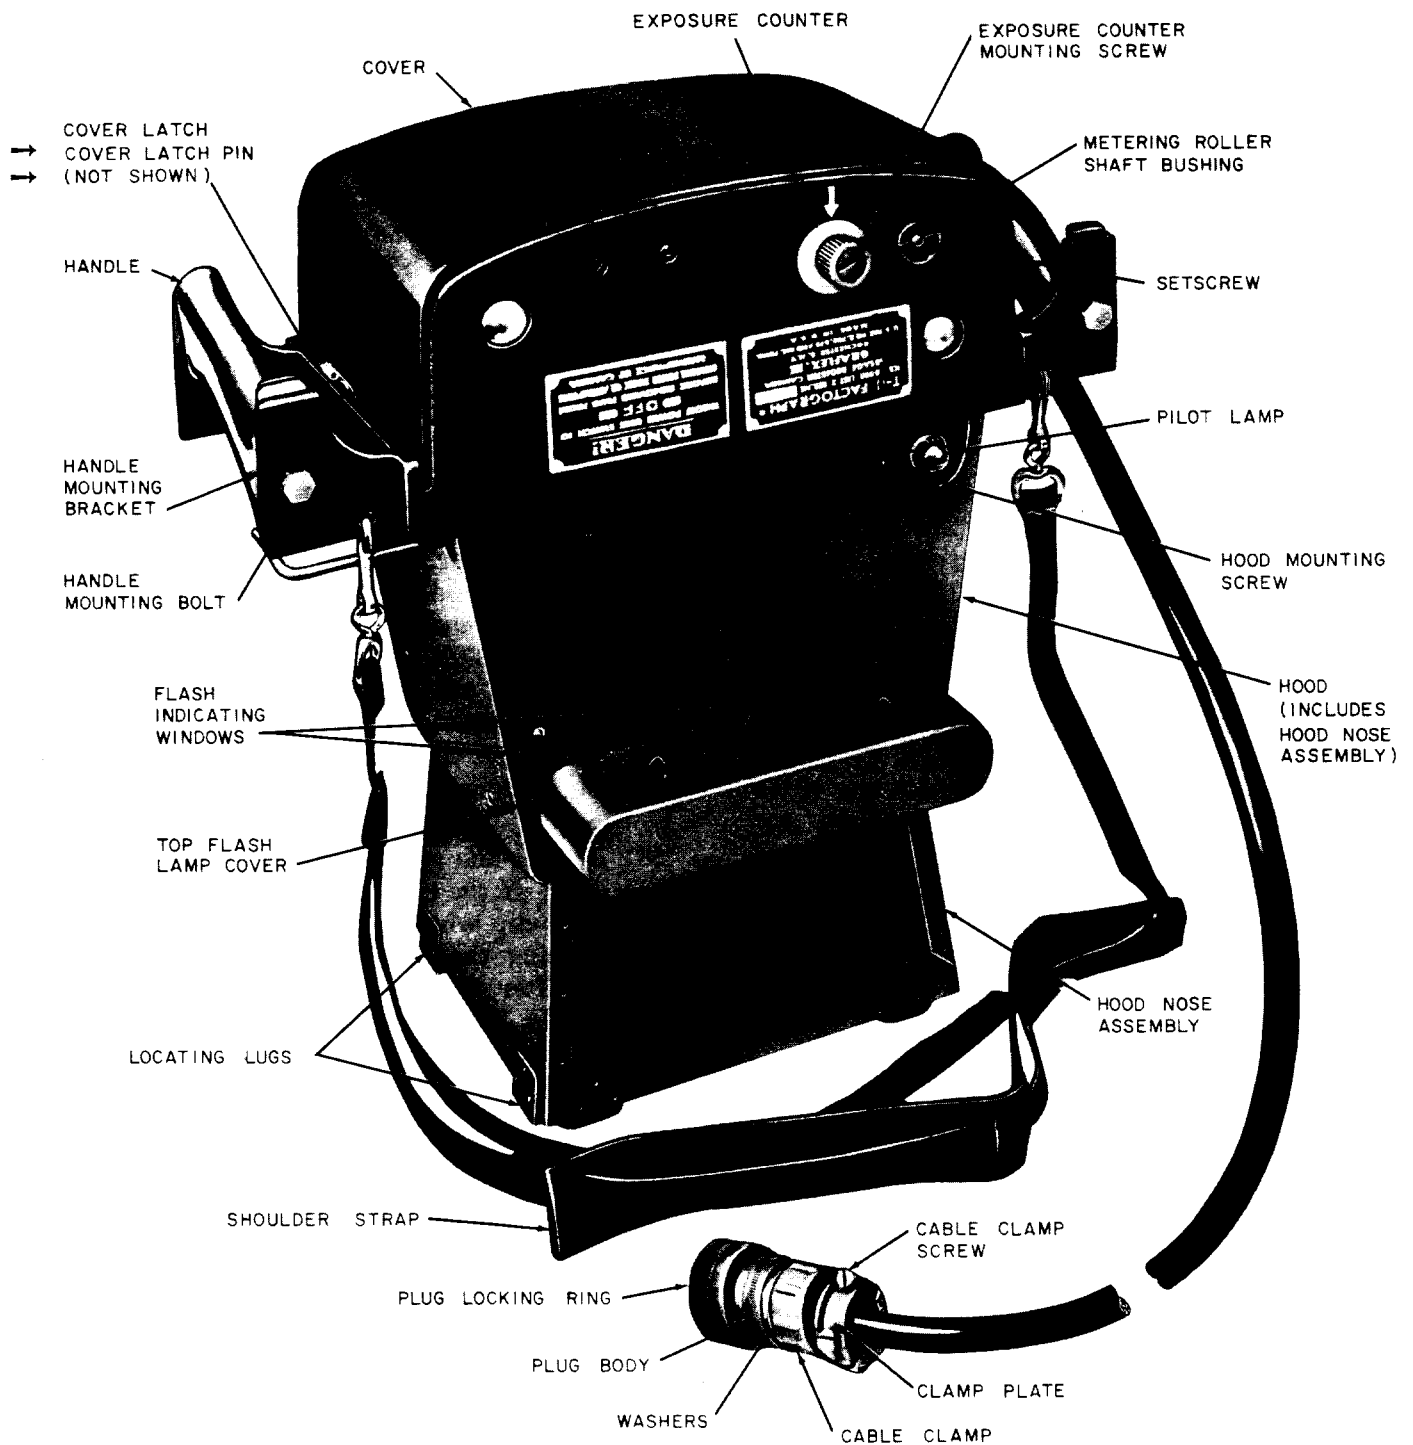

Fig. 11 — KS-14593 L2 Message Register Camera (Exterior View)
3.08 Cover Latch: Fig. 11 — Remove the cover.
➤ **3.09 Cover Latch Pin:** Fig. 11 — Remove the cover. Remove the defective latch pin from the cover using the riveting hammer and drive pin punch as required. Substitute a replacement latch pin from the 34533-G1 kit. Securely fasten the pin with a lockwasher and nut from the kit, using the 349 wrench. Apply pressure carefully
3.10 Handle: Fig. 11 — Remove the handle mounting bolts and lockwashers using the KS-6367 wrench. Remove the handle. Mount the new handle and securely tighten the mounting bolts, making sure the lockwashers are in place.
3.15 Flash Lamp Cover: Fig. 9 and 11 — Place the camera on its side so the cover to be replaced will be accessible. Remove the cover mounting screws and washers from the inside of the camera hood using the KS-14336 screwdriver. Remove the cover. Mount the new cover. In the case of the cover equipped with the flash indicating windows (Fig. 11), mount the cover with the windows facing the exposure counter. Securely tighten all screws.
3.16 Flash Indicating Windows: Fig. 11 — Manually unscrew and remove the window. If necessary, apply the P-long-nose pliers as close as possible to the flash lamp cover to loosen the window. Mount the new window finger-tight.
3.18 Pilot Lamp: Fig. 11 — Unscrew the lamp cap. With the tips of the fingers, press the lamp inward and turn it counterclockwise to disengage it from the socket. Remove the lamp. Mount the new lamp in reverse order of removal and remount the lamp cap.
3.19 Pilot Lamp Socket: Fig. 11 and 12 — Remove the pilot lamp as covered in 3.18. Remove the camera hood as covered in 3.06. Remove the high-voltage shield (Fig. 9) using the 3-inch C screwdriver. Unsolder and disconnect the lamp socket leads. Remove the lamp socket mounting nut and washer using the Williams No. 731 wrench. Remove the lamp socket. Mount the new lamp socket and securely tighten its mounting nut making sure the lockwasher is in place. Connect and solder the leads. Remount the high-voltage shield and hood. Remount the lamp as covered in 3.18.
3.42 Metering Roller, Metering Roller Shaft, and Metering Roller Cam: Fig. 11 and 15 —
ing at the wind knob side of the camera using the R-2671 wrench. Unscrew the bushing from the end of the shaft using the 5-inch E screwdriver. Push the shaft inward with the R-1102 spudger until the bushing on the shaft at the exposure counter side of the camera (Fig. 11) is accessible. While holding the metering roller and metering roller cam in one hand, grasp this bushing with the other hand and remove the shaft. Remove the metering roller and cam.
Fig. 11 — Remove the exposure counter mounting screw using the 4-inch E screwdriver taking care not to lose the spring, lockwasher, and spacer mounted under the screw head. Remove the exposure counter. Substitute new parts as required. Mount the new exposure counter on the shaft. Position the spacer and lockwasher on the mounting screw with the spacer nearer the head of the screw. Position the spring in the recess in the exposure counter and mount the screw, spacer, and washer. With the exposure counter and metering roller gears engaged, hold the metering roller to prevent it from turning and securely tighten the exposure counter mounting screw.
3.50 *Adapter:* Fig. 5 — Remove the camera cover. Loosen the setscrew in the adapter using the proper size Allen wrench. Remove the adapter from the fixed pin. With the camera resting on the locating lugs on the hood nose as shown in Fig. 11 of the section, position the new adapter on the fixed pin so that the side of the adapter without the locating pin is against the camera frame and the locating pin on the other side of the adapter is directly above the center of the fixed pin. This position of the locating pin is important in order to insure proper positioning of the cassette for withdrawal of the paper. Securely tighten the setscrew in the adapter.